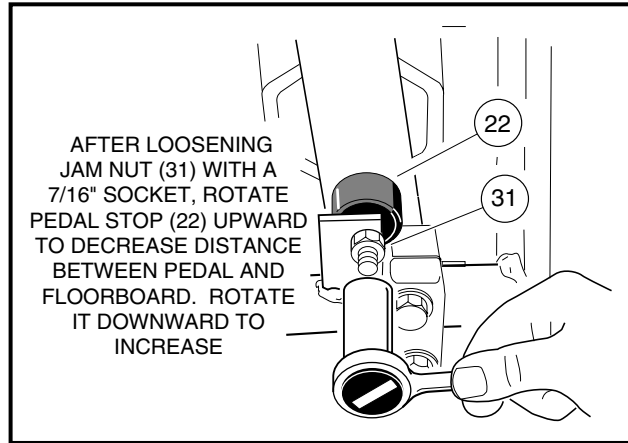
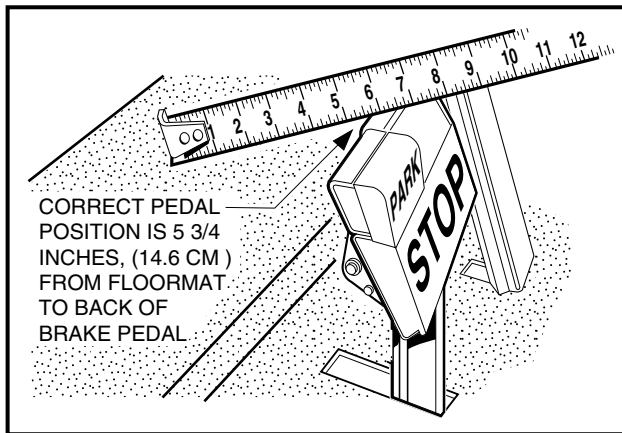

FIGURE 6-2
FIGURE 6-3
1.2. Using a 7/16" socket, loosen the brake stop jam nut (31), then relieve pedal pressure on the stop by pushing down slightly on the pedal. Then adjust the brake stop bumper (22) up or down (**Figure 6-2**). Adjusting the bumper upward decreases distance between pedal and floorboard. Adjusting the bumper downward increases distance between pedal and floorboard. Proper brake pedal height is 5-3/4 inches (14.6 cm) plus or minus 1/4 inch (.6 cm) (**Figure 6-3**).
1.3. Tighten the jam nut (31) to 7-9 ft.lbs. (9/10 N-m) (**Figure 6-2**).